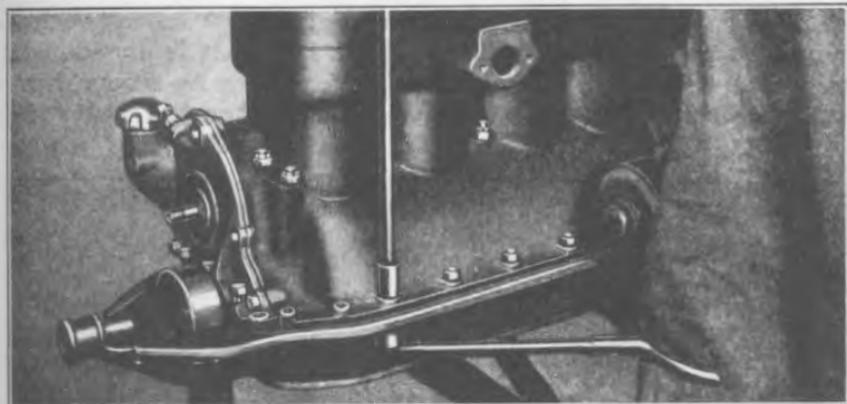
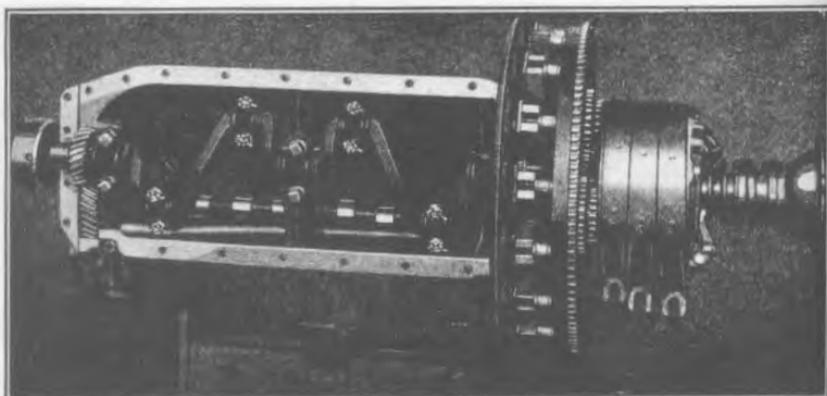

Fig. 133
Fig. 134
- 204 Remove crankcase and transmission cover by running out the bolts, nuts and cap screws which hold crankcase to cylinder block and transmission cover (See Fig. 133). Engine and transmission are now exposed as shown in Fig. 134, the transmission bands and ball cap can then be lifted off.